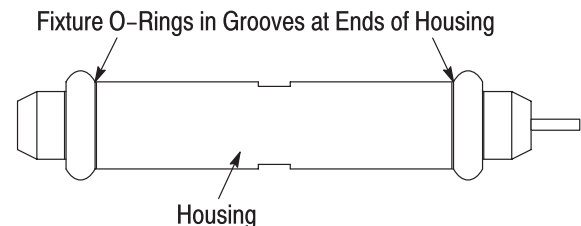

Figure 8
- 6. Firmly hold the housing pieces together, and slide the fixture O-ring on the protective tubing into the groove at the end of the housing; then slide the other fixture O-ring into the groove at the other end of the housing. Make sure that the O-rings sit in the grooves. Refer to Figure 8.